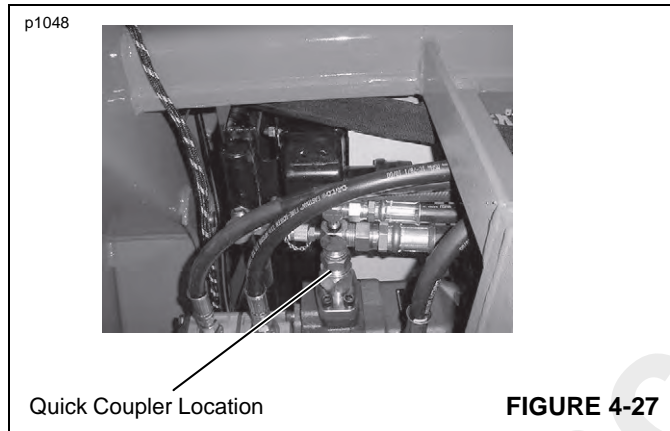

FIGURE 4-27
1. Start the engine and let it idle. Install a 0 - 34.45 bar (0 - 500 psi) pressure gauge on the quick coupler in the hydraulic line attached to the outlet of the primary hydraulic pump. See Figure 4-27.
1. With the engine shut off, install a 0 - 344.50 bar (0 - 5000 psi) pressure gauge on the quick coupler in the hydraulic line attached to the outlet of the primary pump. See Figure 4-27.
1. Start the engine and leave it at idle. Install a 0 - 34.50 bar (0 - 500 psi) pressure gauge on the quick coupler on the outlet line of the primary pump. See Figure 4-27.